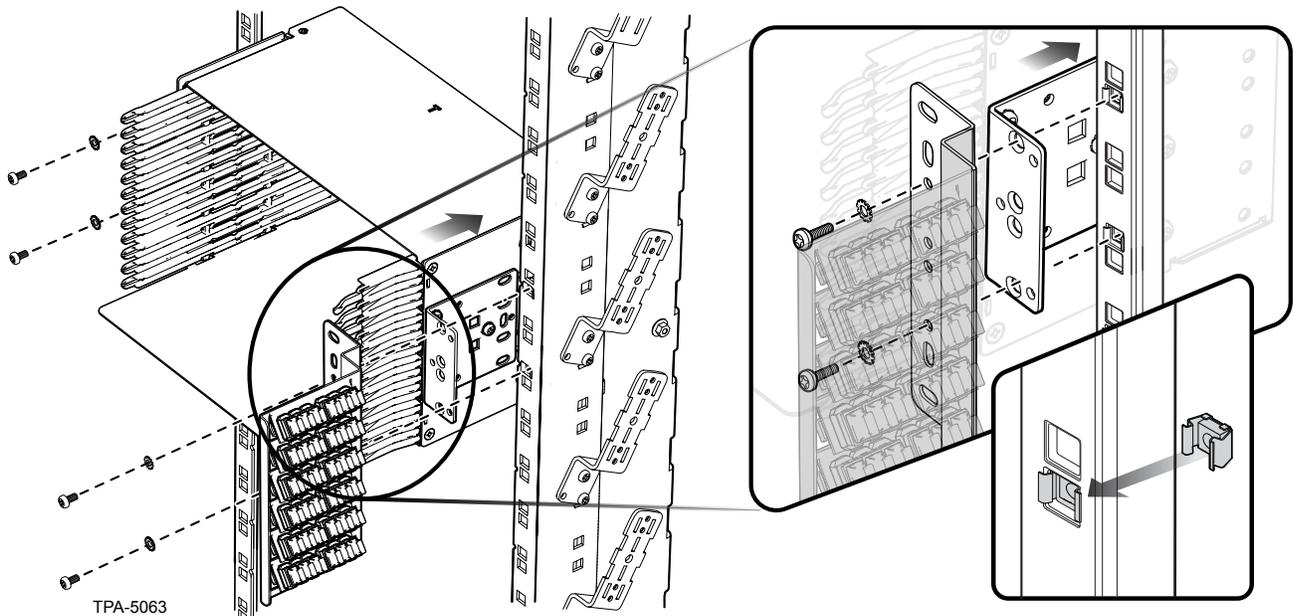

Figure 8
Step 2: Position the adapter bracket kit (P/N CTX-KIT-F4U-WW89) as shown for the 4U housing example. Align the holes on the two brackets as shown in Figure 8. Secure both the housing and the adapter bracket to the frame at the same time using the screws and cage nuts provided. Contact Customer Care for additional adapter bracket kit options based on housing size.